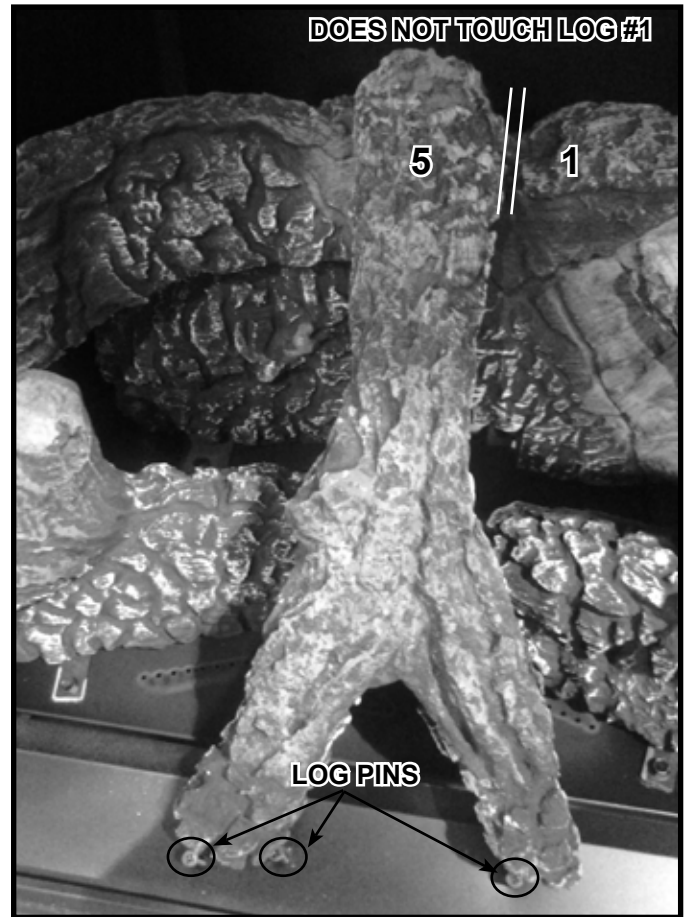

Figure 5. Log #5 in Position
**Log #5:** Place Log #5 into position. The forked end of Log #5 is positioned on the log pins as shown in Figure 5. The back end of Log #5 will rest on Log #4, but does not touch Log #1.